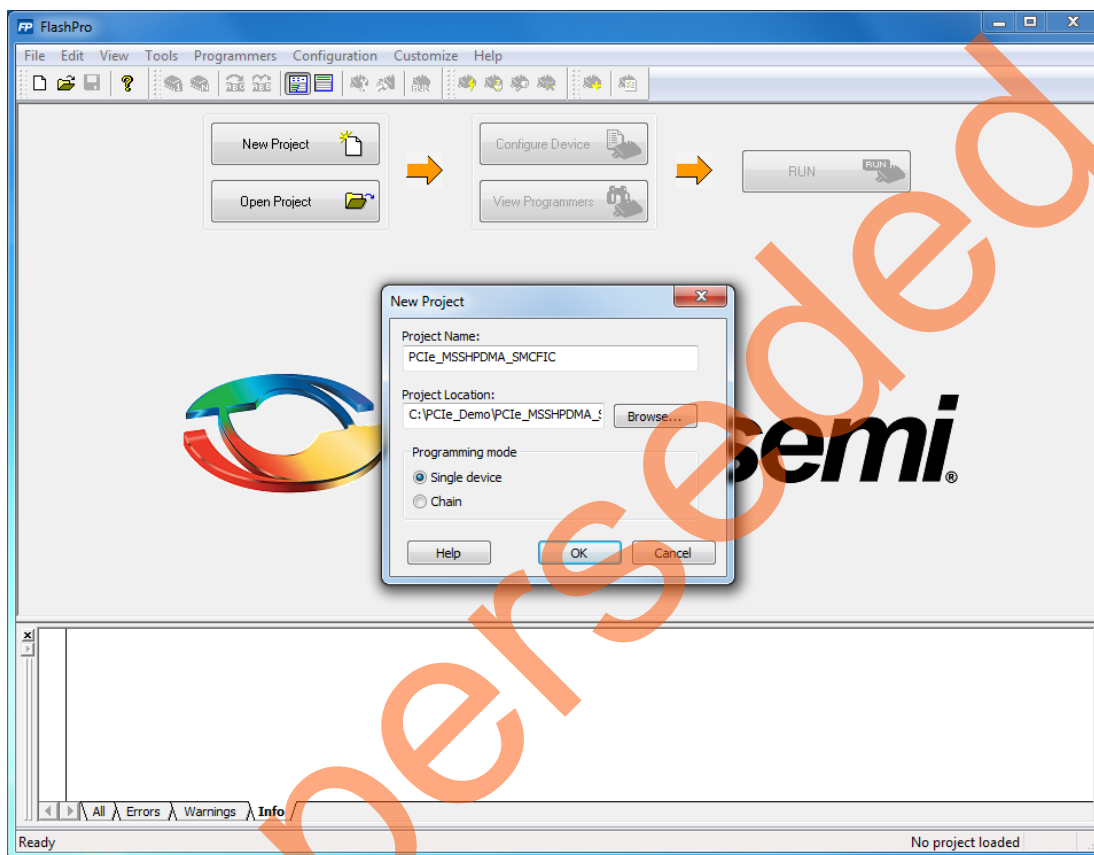

Figure 3 • FlashPro- New Project Dialog
2. Click **New Project**. Figure 3 shows the **FlashPro - New Project** dialog.